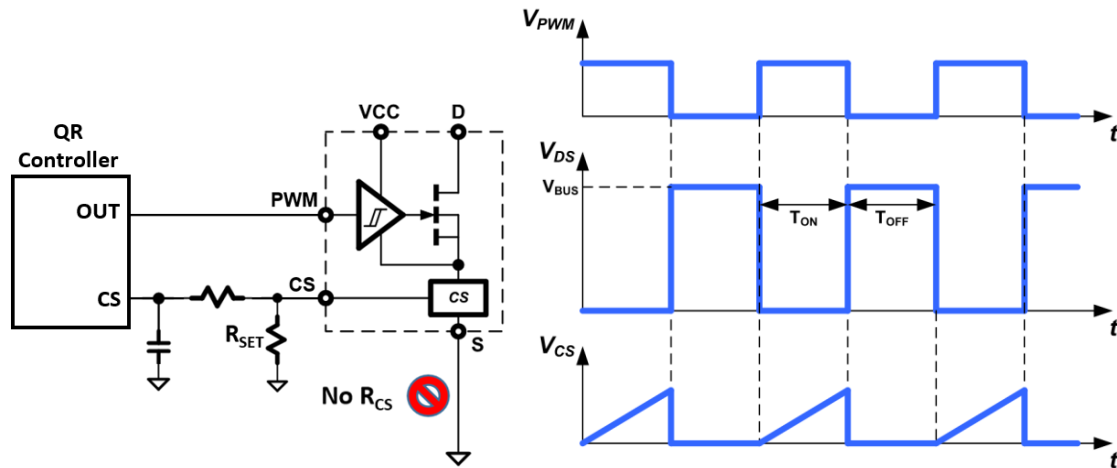

Figure 23. Current sensing circuit and timing diagram
For many applications it is necessary to sense the cycle-by-cycle current flowing through the power FET. Existing current sensing solutions include placing a current sensing resistor in between the source of the power FET and PGND. This resistor method increases system conduction power losses, creates a hotspot on the PCB, and lowers overall system efficiency. To eliminate this external resistor and hotspot, and increase system efficiency, this IC includes GaN technology for integrated and accurate loss-less current sensing. The current flowing through the internal GaN power FET is sensed internally and then converted to a current at the current sensing output pin (CS). An external resistor (R_{SET}) is connected from the CS pin to the GND pin and is used to set the amplitude of the CS pin voltage signal (Figure 23). This allows for the CS pin signal to be programmed to work with different controllers with different current sensing input thresholds.